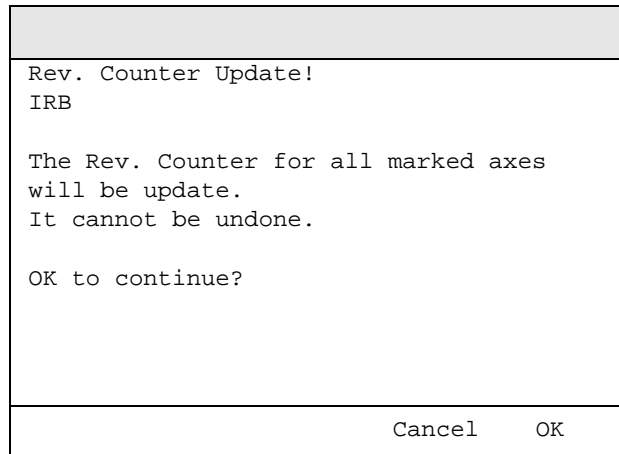

Figure 23 The dialog box used to start updating the revolution counter.
7. Confirm by pressing **OK**. A window like the one in Figure 23 appears.